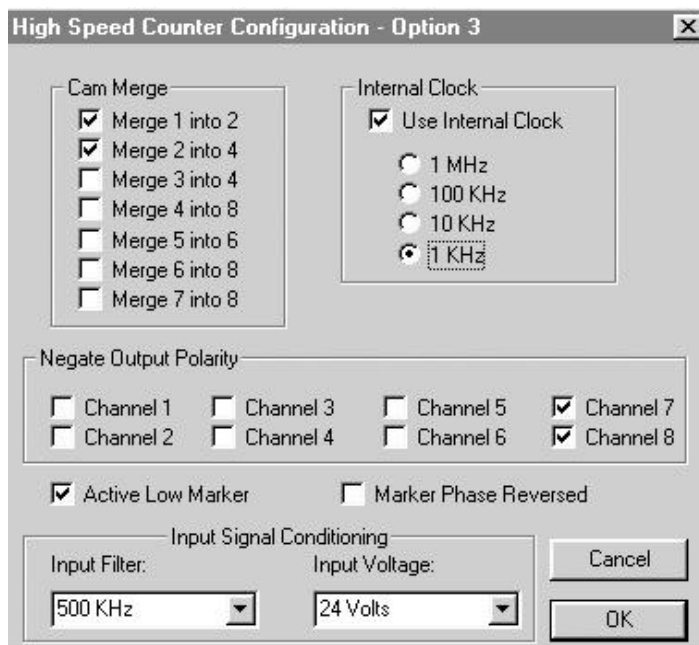

Figure 5.11 – Option 3 Configuration Screen
2. The following screen appears (Figure 5.11):
7. The **Input Signal Conditioning** block allows the user to set the input voltage threshold and the input frequency response for noise filtering. It is located on the lower left side of the configuration screen. (See Figure 5.11.) Using the corresponding pull-down menus, select the input voltage and the input frequency for noise filtering.